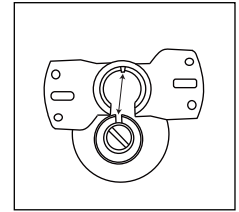

Figure 1
1. Insert the downrod ball head into the groove of the mounting bracket. (Figure 1)
- **IMPORTANT:** Using a full range dimmer switch(not included) to control fan speed will damage the fan. To reduce the risk of fire or electrical shock, do not use a full range dimmer switch to control the fan speed(Figure 1).
(Figure 1)